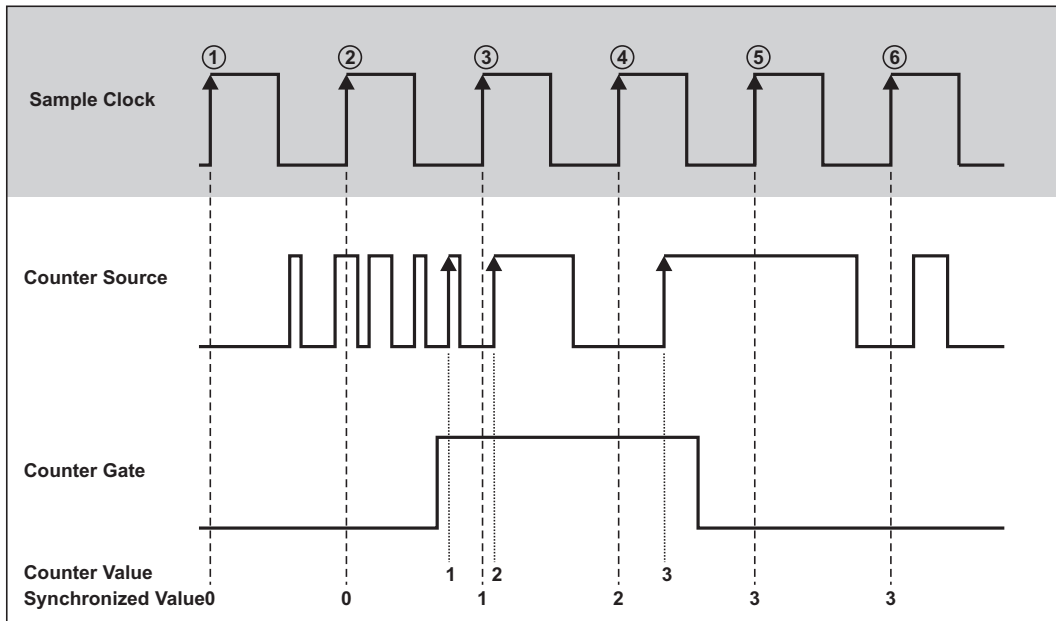

Figure 3-4: Gated Event Counting
Figure 3-4 shows an example of Gated Event Counting where the counter counts three events on *Counter Source*. At ① and ② the counter value is zero, because the gate signal is inactive. At sample clock ③, ④ and ⑤ the actual counter value is read out. At ⑥ the same value as at ⑤ is typed out.